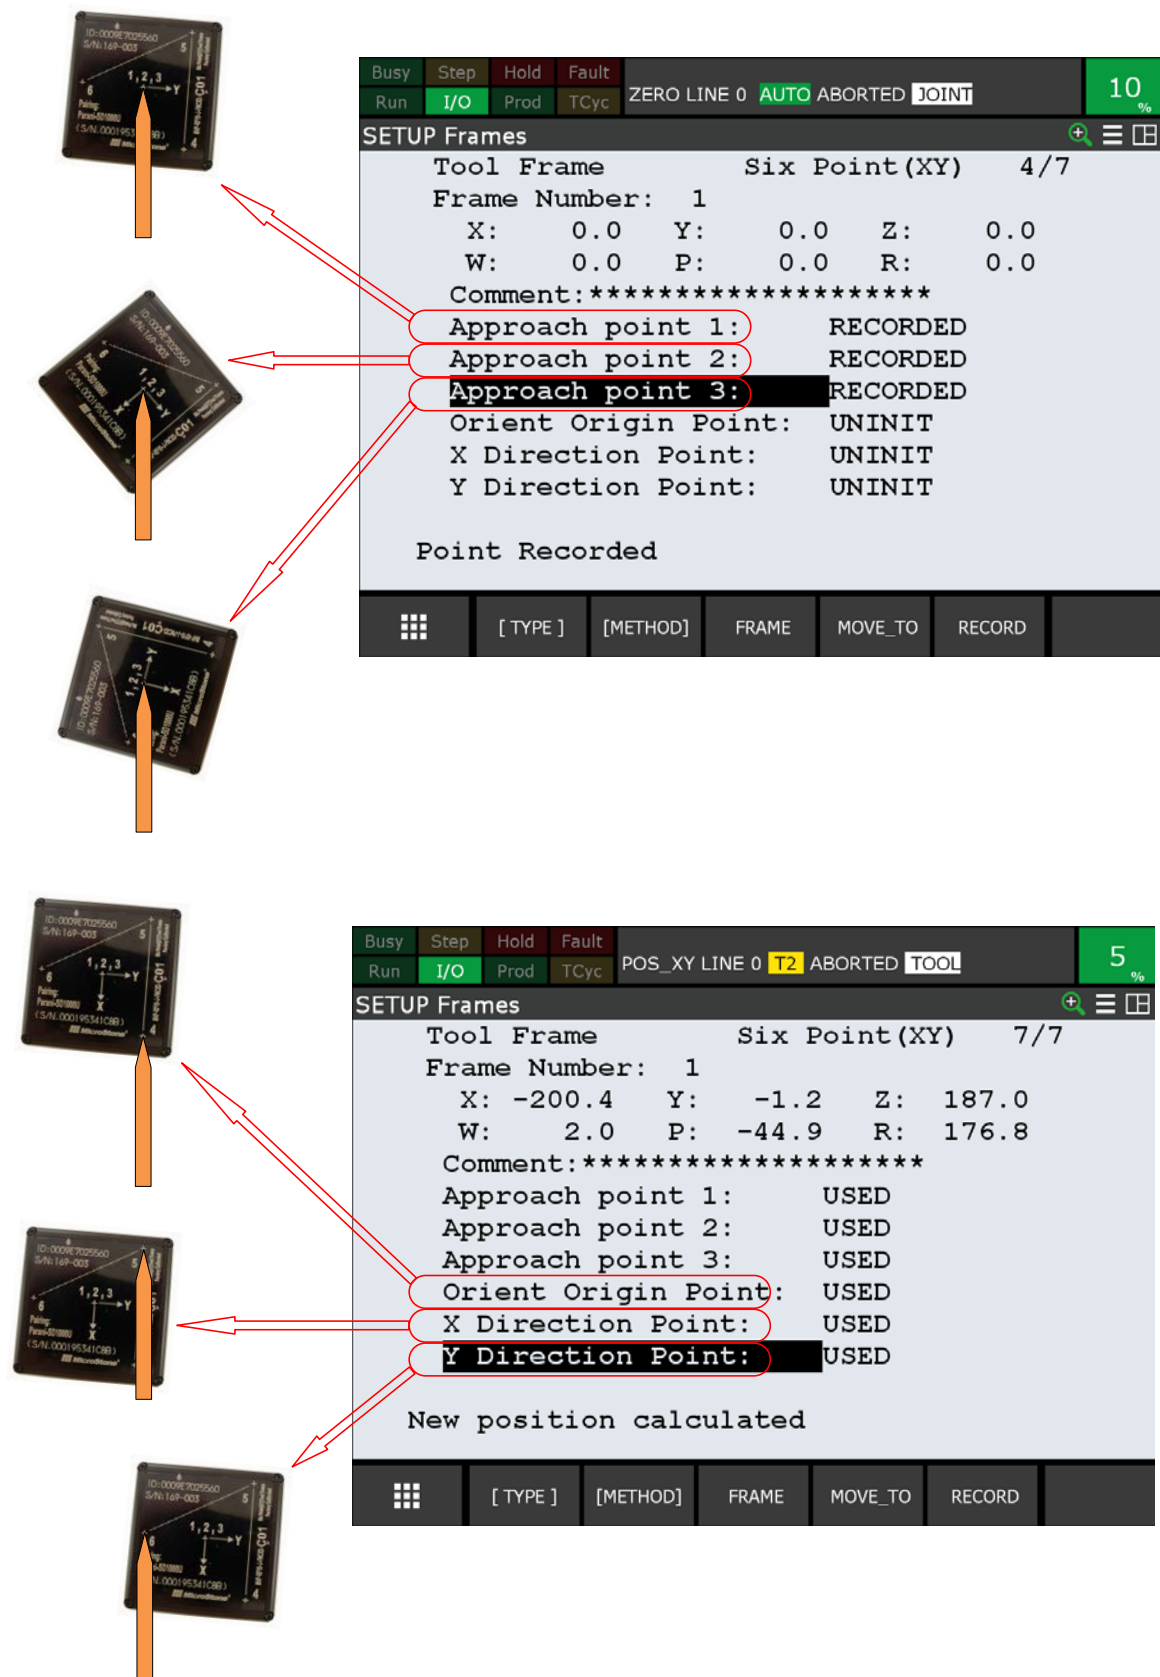

Fig. 4.2.2(a) Corresponding points between the top of the sensor and six point(XY) frame
- 5 According to numbers on the sensor label, instruct the “+” mark in the surface of the accelerometer as a reference point. Move robot so that a teaching point comes to “+” on the sensor label like figure 4.2.2(a). Hold down the [SHIFT] key and press F5 “RECORD”. Approach point comes to be recorded. Similarly, for approach point 2 and approach point 3, change a posture of the Robot, too and instruct it.